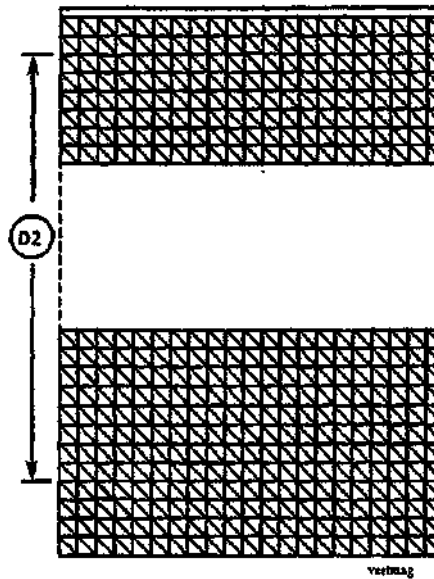

Figure 1. Checking the Vertical Magnification
4. (Figure 1): Check that 60 blocks in the paper feed direction measure 975.4 ± 4.88 mm.